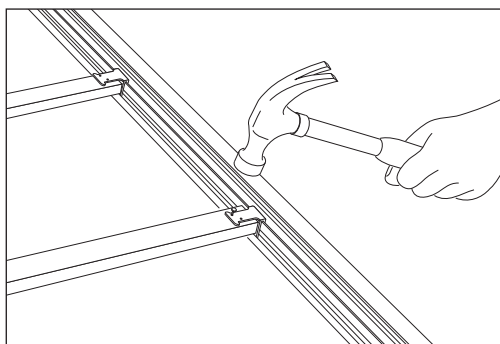

Fig 3 Nail cleats to battens
- 8 Nail cleats to each batten using nails provided in fixing kit (Fig 3).